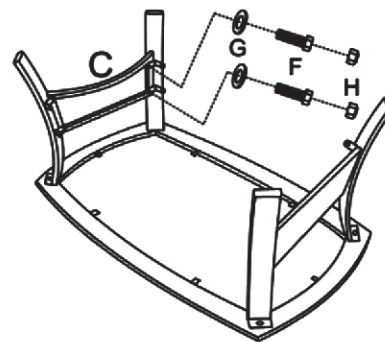

Figure 3
Step 4. Assemble the short leg connector (C) to the table legs (B) with bolts (F) and washers (G) by using open wrench(I) as shown in figure 3.